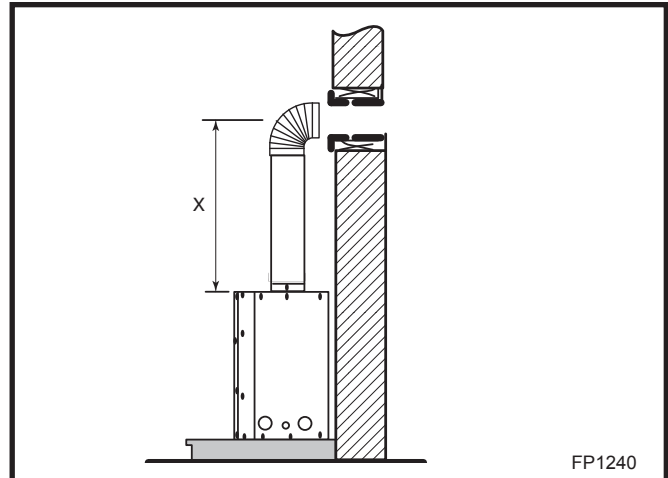

Fig. 22 Vertical height requirement.
Place fireplace into position. (Fig. 22) Measure the vertical height (X) required from the base of the flue collars to the center of the wall opening.